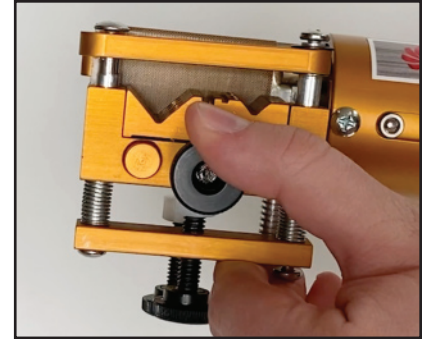
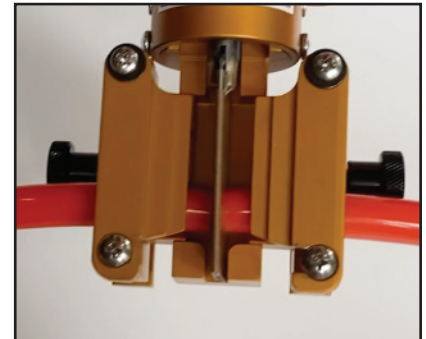

Figure 1
Figure 2
5. While compressing the belt clamp springs (see Figure 1), place both belt ends into belt clamp and make sure there are no twists in the belt and the belt ends are flush against the heater blade. Tighten belt clamp lock screws. (see Figure 2).